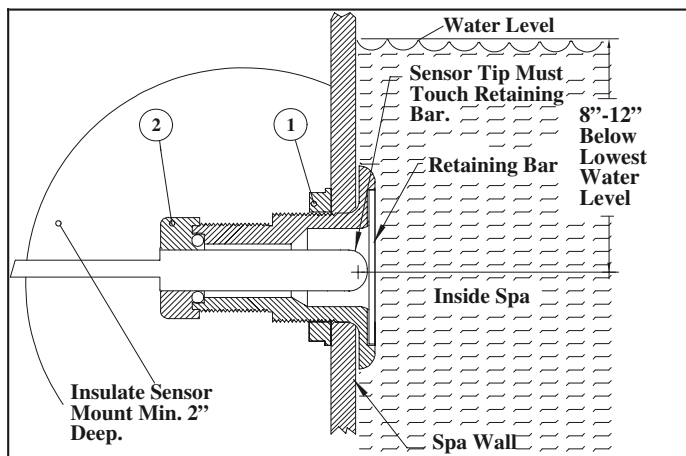

Figure 3: Plastic tee mounting
- Install into a plastic tee 1 1/2" x 1 1/2" x 1/2" or 2" x 2" x 1/2". See Figure 3.
- b. Plastic tee mounting - Figure 3: Insert the water sensor (#2) into the fitting (#3) until the cable end of the sensor is flush with the domed sealing nut (#1).